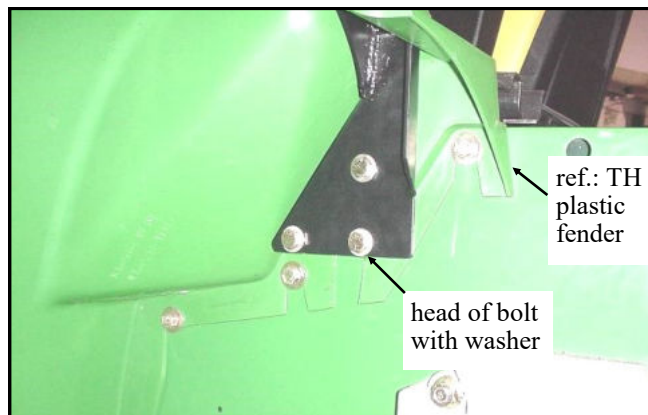

Fig. 5.1
5.1 Orient the left and right rear mount tabs so that it lines up with the three hole pattern shown in figure 5.1. Ref.: **ON MODEL TH ONLY**; the angles on the rear mount tab match the underside angles of the plastic fender.
5.2 The rear mount tab should be oriented so that the top mounting surface and top bolt hole is pointing out away from the center of the vehicle. NOTE: the plastic fender shown in fig. 5.1 is only on the TH model. Install rear mount tabs using three (3) 3/8 x 7/8" long hex head bolts, three steel washers, and three locknuts per side. The locknuts go behind the plates without washers. The head of the bolt is outboard as shown with washers under the bolt heads.